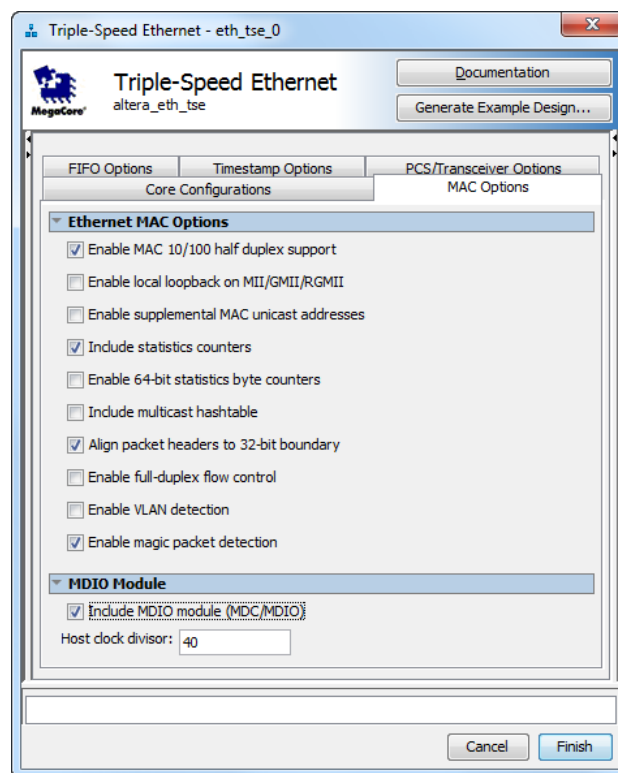

Figure 6. Settings for the Triple-Speed Ethernet IP Core.
- Select the following options: **Enable MAC 10/100 half duplex support**, **Include statistics counters**, **Align packet headers to 32-bit boundary**, **Enable magic packet detection**, and **Include MDIO module (MDC/MDIO)**, as shown in Figure 6.